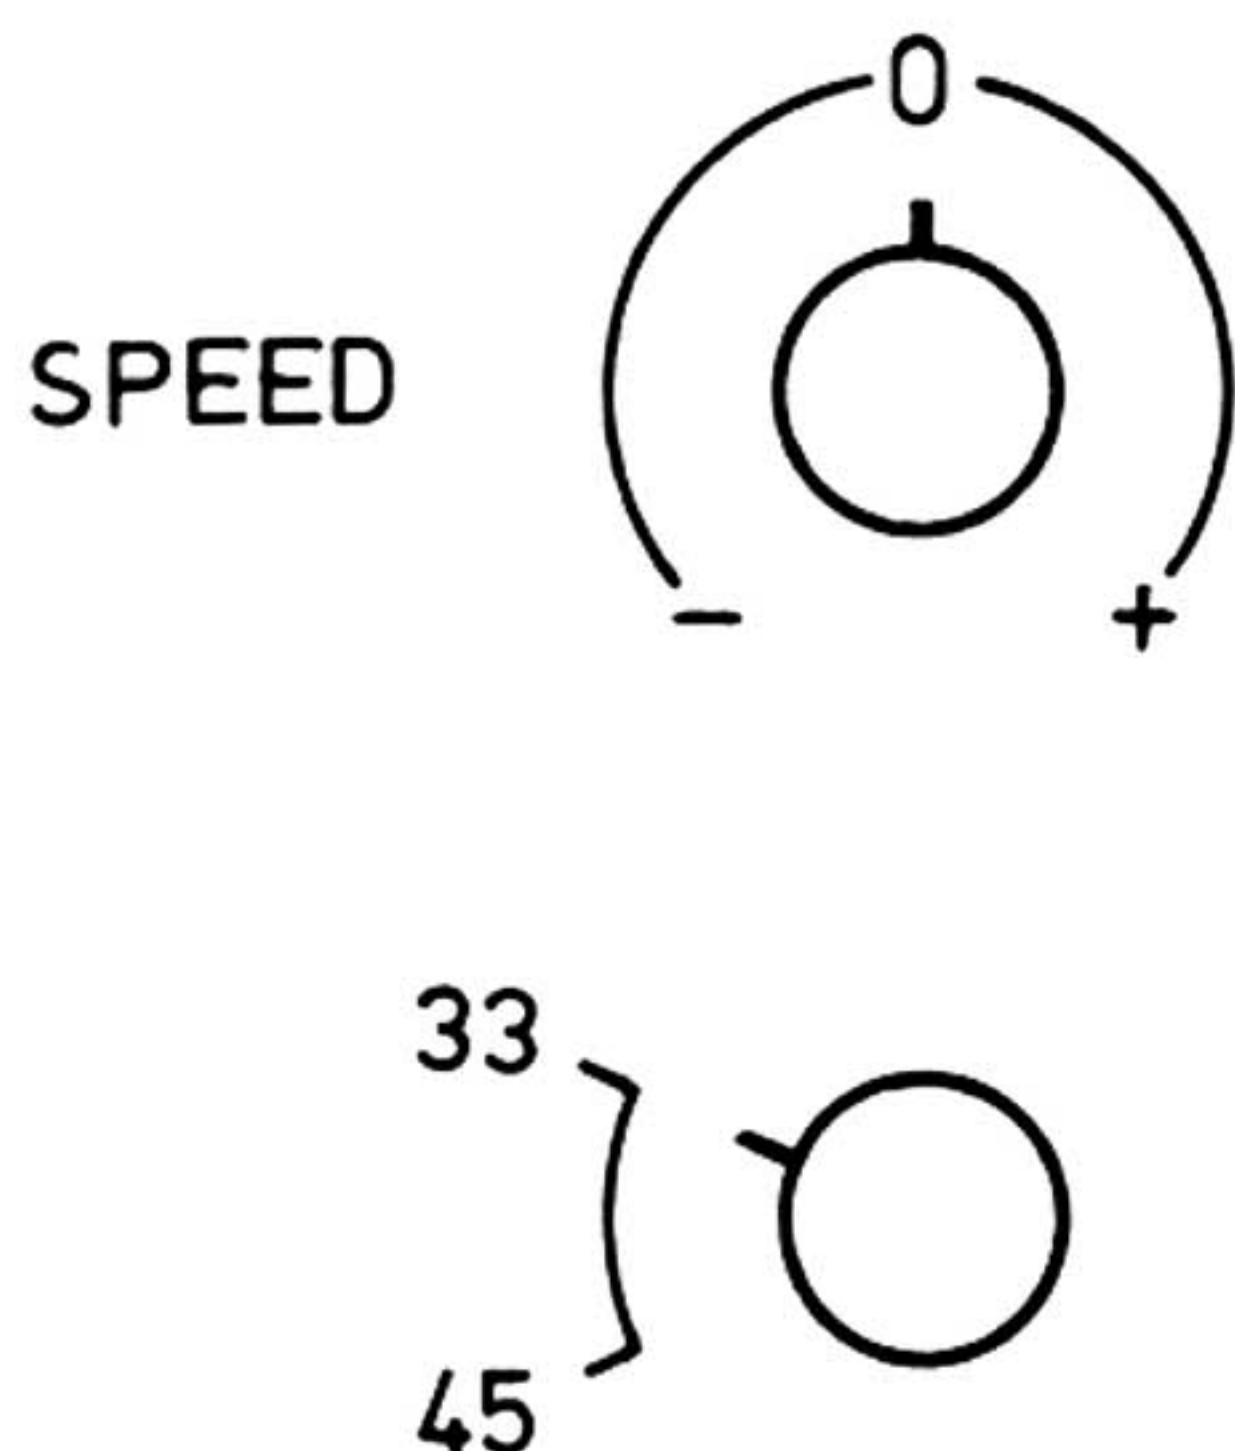

Fig. 1
5. Check the setting of the fine speed control knob (P 1) by comparing its fully clockwise position with that on fig. 1. If necessary adjust the position by removing the upper part of the knob and replacing in the correct position.
6. With the fine speed control in the position «0» shown in fig. 1 check that the bars on the stroboscope ring are stationary. The upper 2 rings are for 50 Hz and the lower 60 Hz. From each pair the upper is for 33 $\frac{1}{3}$ and the lower 45 rpm. If necessary the speed can be adjusted with the two potentiometers which are to be found underneath the motor.